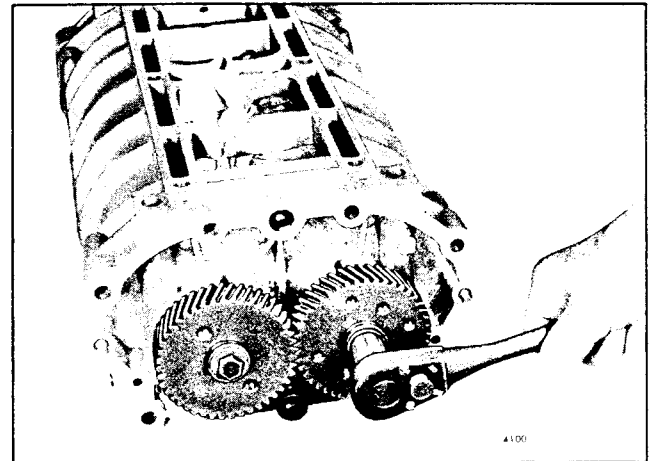

Fig. 17 - Installing Blower Rotor Gears
- g. Place the rotor gear pilots (43) on two 3/8"-24 x 2-3/4" bolts, then thread a bolt into the end of each rotor shaft. Place a clean shop towel between the rotors and one between the rotor and the housing (Fig. 17) to prevent the gears from turning. Then draw the gears approximately half-way on the rotor shafts.